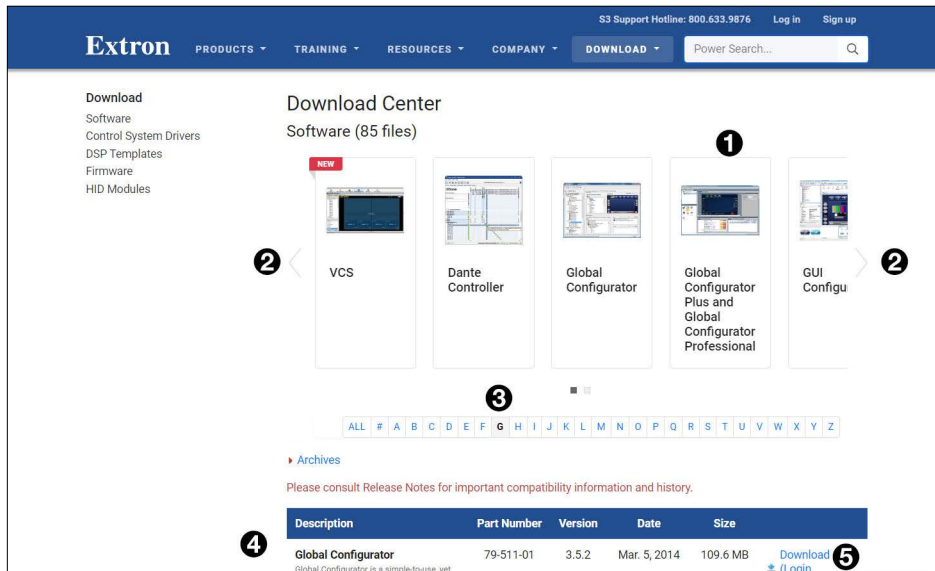

Figure 7. Download Center Software Page
4. If the software appears at the top of the page, click on the product (see figure 7, ❶), which takes you to the product page on the Extron website. This provides further information about the product. Click **Download** and follow the on-screen instructions to download the software.
5. If you do not see the product, use the < or > arrows (❷) to see other options.
6. If the product is not listed in the top section of the page, click the initial letter of the software product name (❸). Software products with that initial letter are listed at the bottom of the page (❹).
7. Click **Download** (❺) and follow the on-screen instructions to download the software.